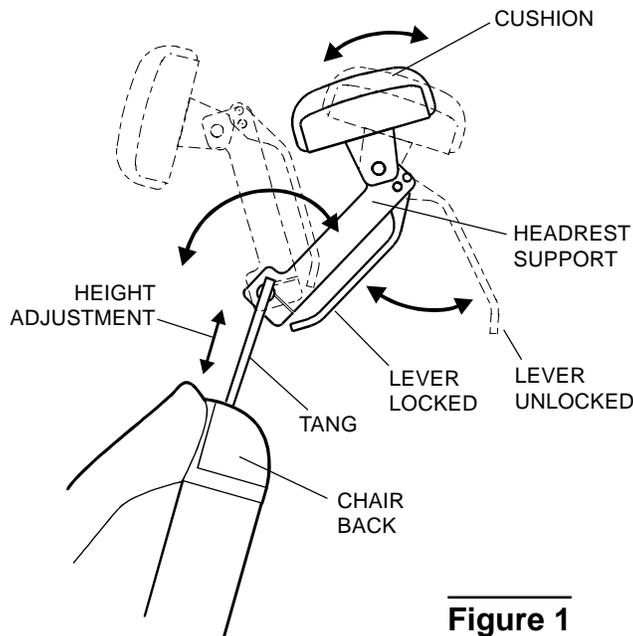

Figure 1
The headrest height can be easily adjusted by simply pushing in or pulling out on the headrest assembly, causing the tang to slide in and out of the chair back (See Figure 1).
To articulate the headrest, release the locking lever while supporting the headrest (See Figure 1). Position the headrest support in the desired location and lock in place by closing the locking lever. The cushion articulates freely to support the head in a comfortable position.
- 1) Unlock the headrest support by releasing the locking lever (See Figure 1).